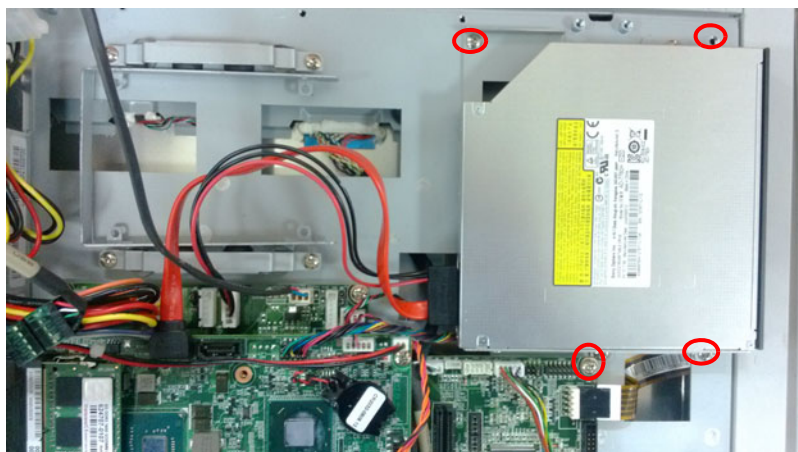

Figure 2.13
2. Take out ODD module, fix it onto the iron bracket, and connect the ODD cable to the corresponding interface.(See Fig 2.13)